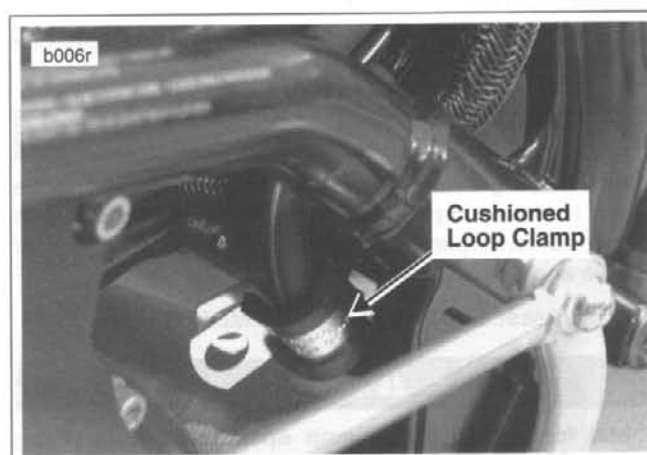

Figure 2-93. Loop Clamp Orientation Before Installation
- See Figure 2-93. Install loop cushioned clamp to brake line and then to bolt side of tie bar fasteners. Loop clamp is oriented down and to the left. Install tie bar to frame with bolt, washer and loop cushioned clamp on lower side of tie bar and **new** locknut on upper side of tie bar. Tighten to 30-33 ft-lbs (40.7-44.7 Nm).